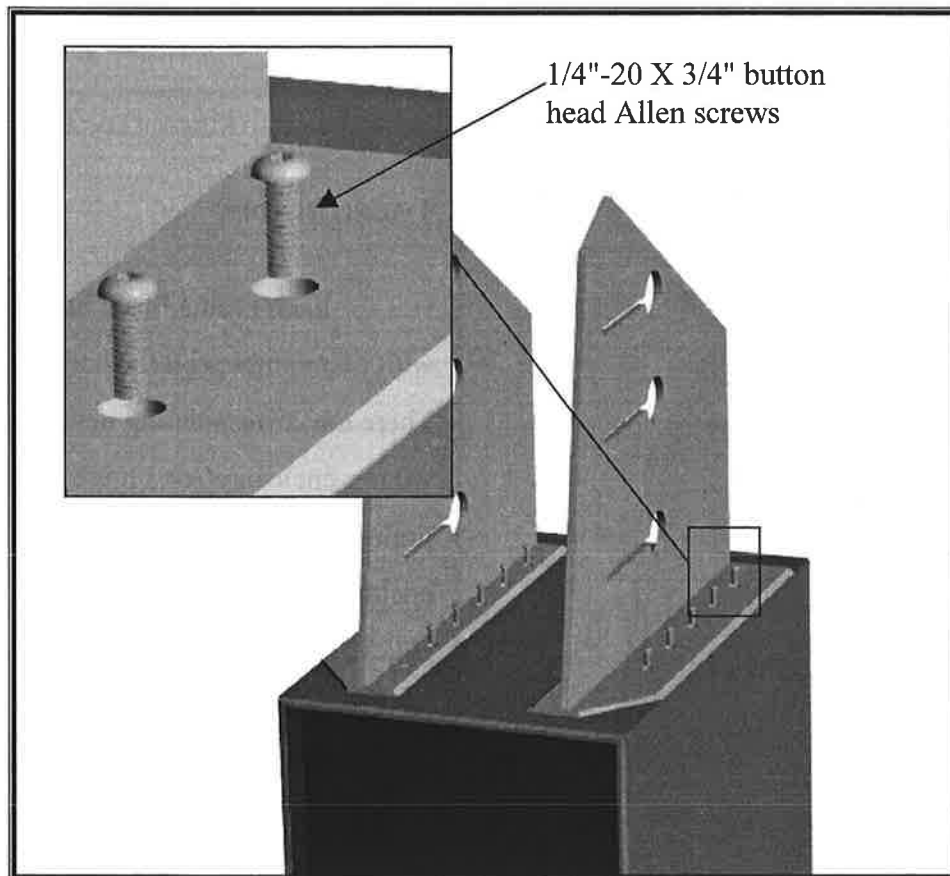

FIGURE 11 ATTACHING TIMING BLADE TO WOOFER TOP
- Bolt them to the woofer module with the button head screws. Note: Do not tighten the screws yet (see Figure 11).